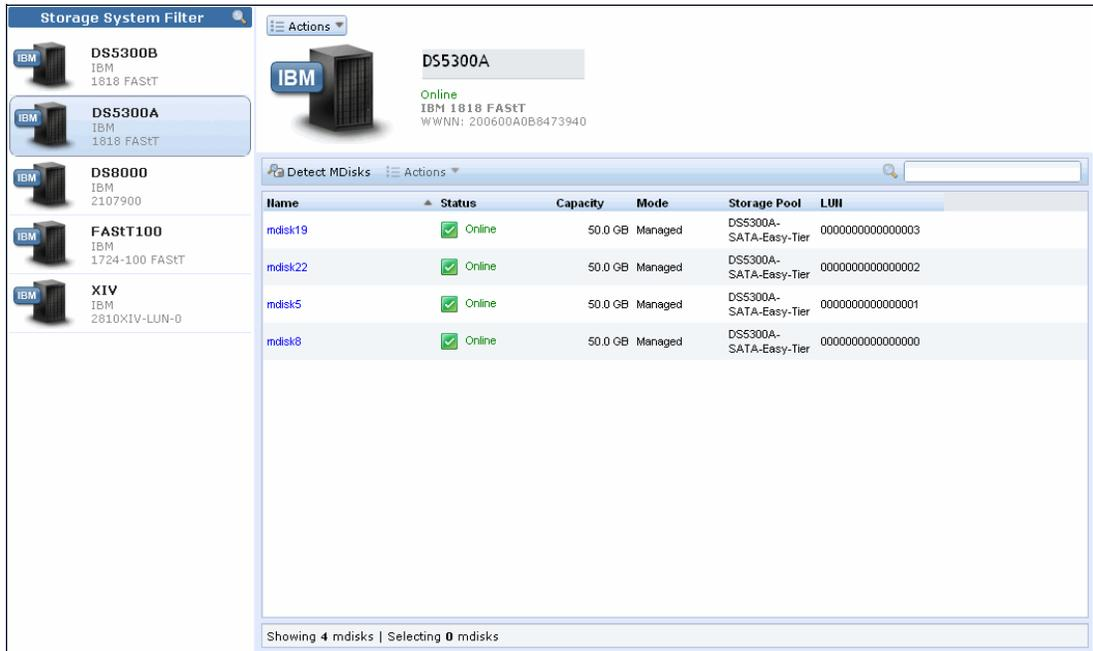

Figure 11-27 Disk controller systems
1. To discover new storage subsystem, select **Physical Storage** in the Welcome menu and then select **External**. The **External** panel shown in Figure 11-27 opens.
2. To rename the newly discovered storage subsystem, in the left panel, select the controller that you want to rename as shown in Figure 11-27. Simply click it and you will be able to edit the name, as shown in Figure 11-28. Type the new name that you want to assign to the controller, and press Enter as shown in Figure 11-28.